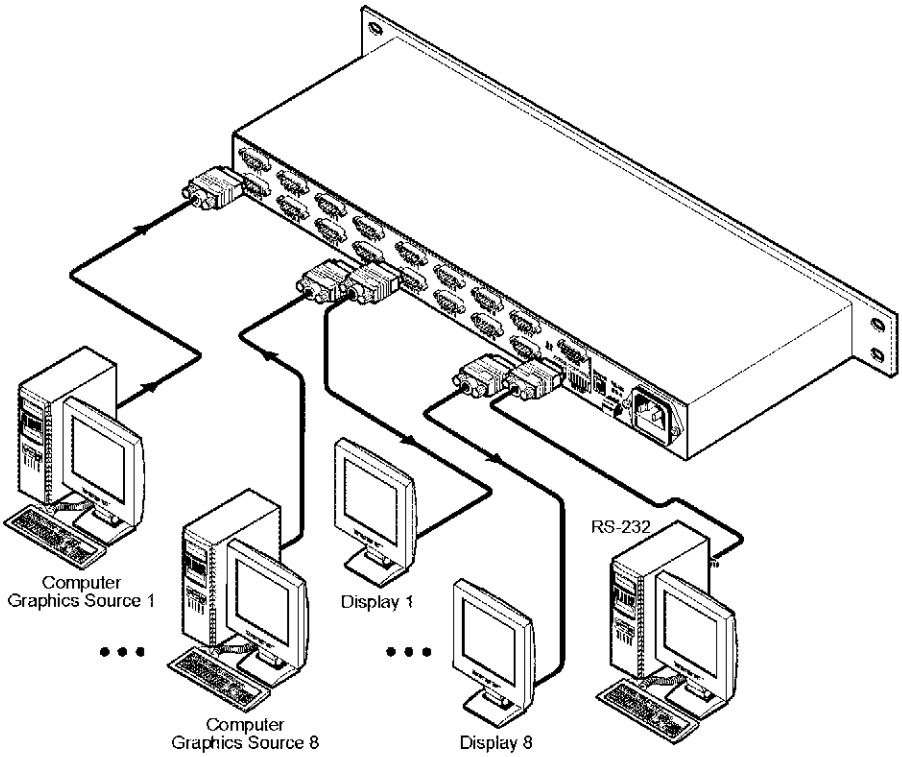

Figure 3: Connecting the VP-8x8 8x8 VGA / UXGA Matrix Switcher
1. Connect up to 8 VGA/UXGA computer graphics sources to the input connectors (see the illustration in Figure 3).